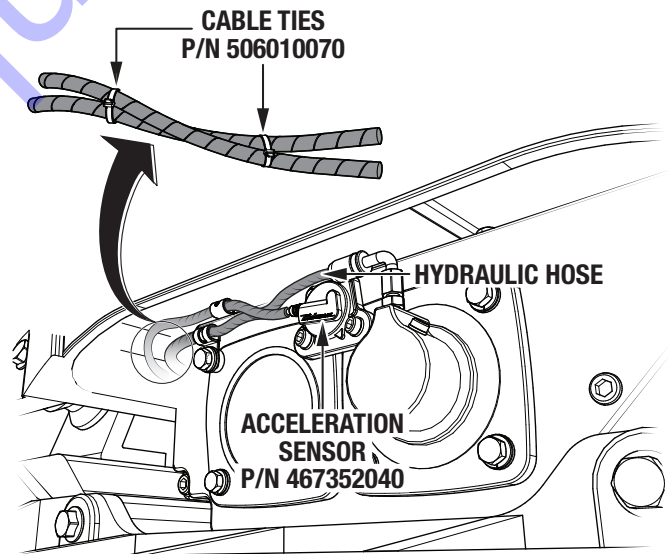

Figure 8. Cable Tie Placement (Acceleration Sensor and Hydraulic Hose)
- Secure the acceleration sensor cable (P/N 467352040) to the hydraulic hose with two cable ties (P/N 506010070). See Figure 8.